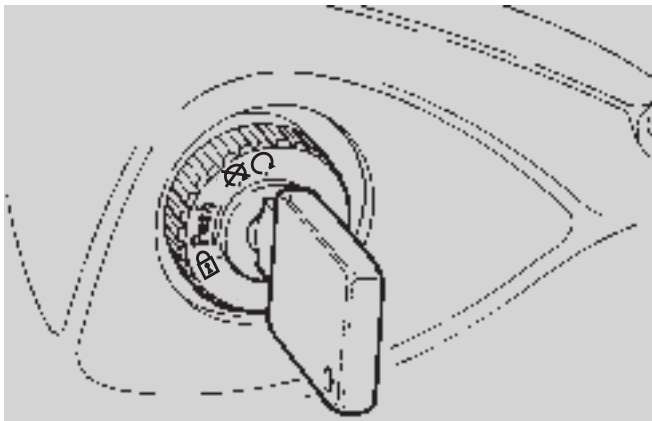

Fig. 19
- ◆ Turn the ignition switch (Fig. 19) to position "○".
- ◆ Move the ignition switch (Fig. 19) to position "○".